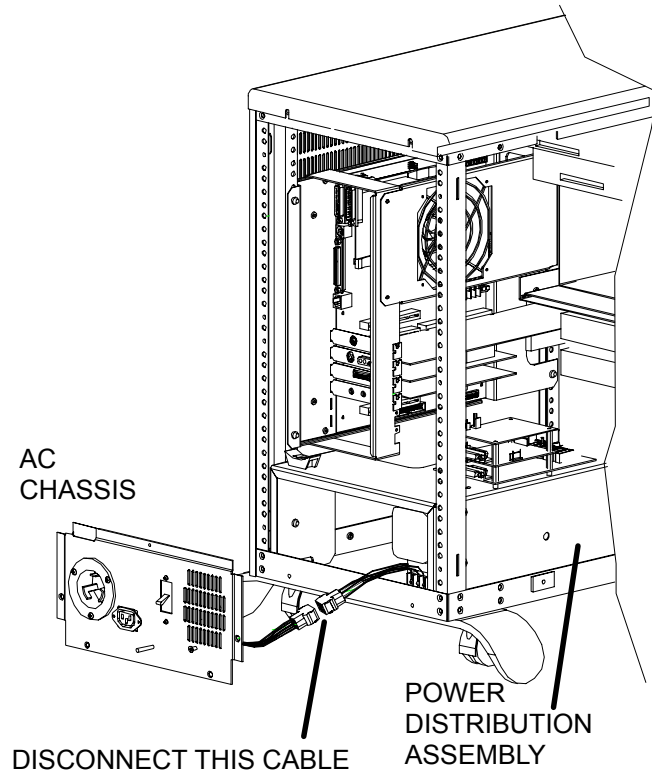

FIGURE 344 AC CHASSIS ASSEMBLY
2. Remove the front cosmetic cover, left side cover and the bottom rear cover. (If the AC Chassis needs to be replaced, it can be done with this procedure.) Lay the AC Chassis on the floor as in Figure 343 or disconnect the cable connector as shown in Figure 344 and move the bottom rear panel out of the way.